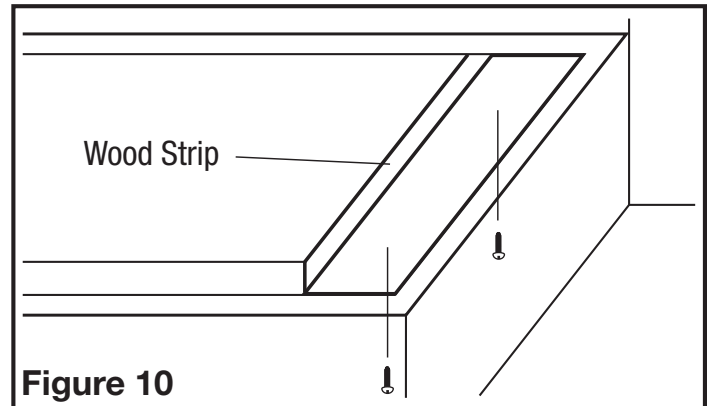

Figure 10
1. If the canopy will be installed under cabinets that have a recessed bottom, it will be necessary to install wood mounting strips (not included) so the canopy will mount properly (Figure 10).